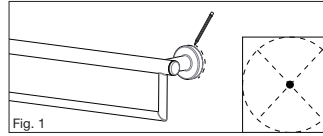

Fig. 1
4. Use a pencil and mark the centers on each side of the product for the mounting locations. (Fig. 1)